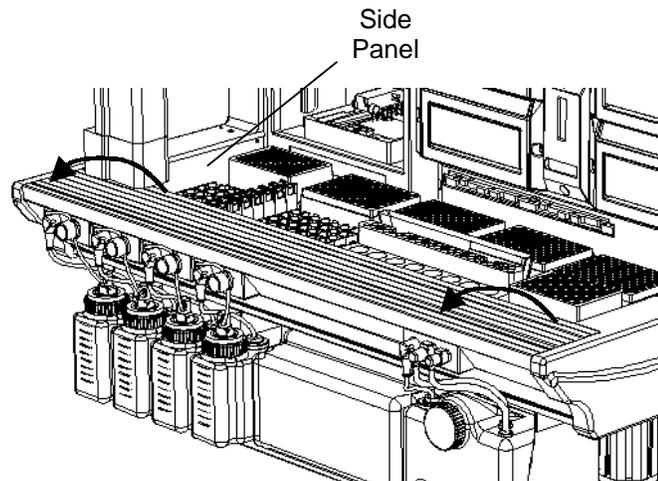

Figure 37. Lifting the Front Panel
1. Lift the rear edge of the metal panel at the front of the system (Figure 37) to expose the tubing.